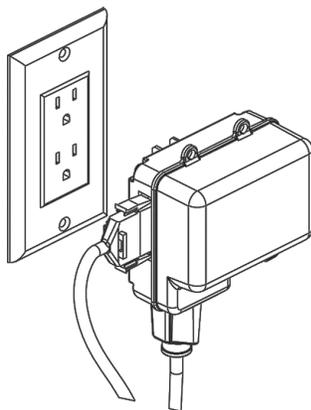

Fig. 1
A. Electrical connection using Current Sensing Box: (See Figure 1)